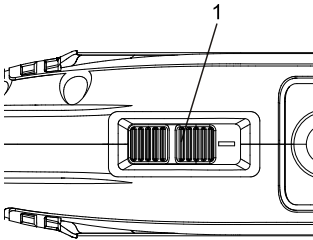

Fig. 2
To turn the switch (1) ON, slide it forward (Fig. 2). To turn the switch OFF, slide it back toward the rear of the tool.